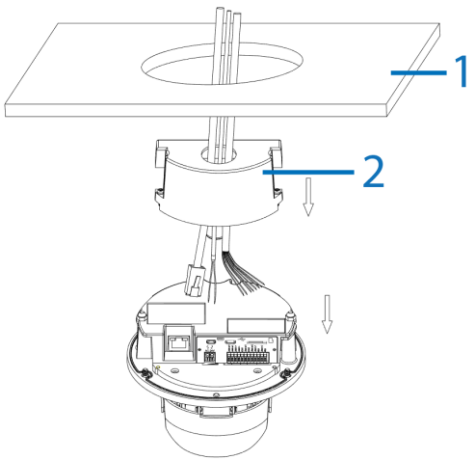

Figure 4
1. Hold the guide pattern sticker up to the ceiling (1) (Figure 4) and cut out a 125mm hole.
4. Place the camera power cables through the hole in the ceiling and the metal cover (2) (Figure 4).